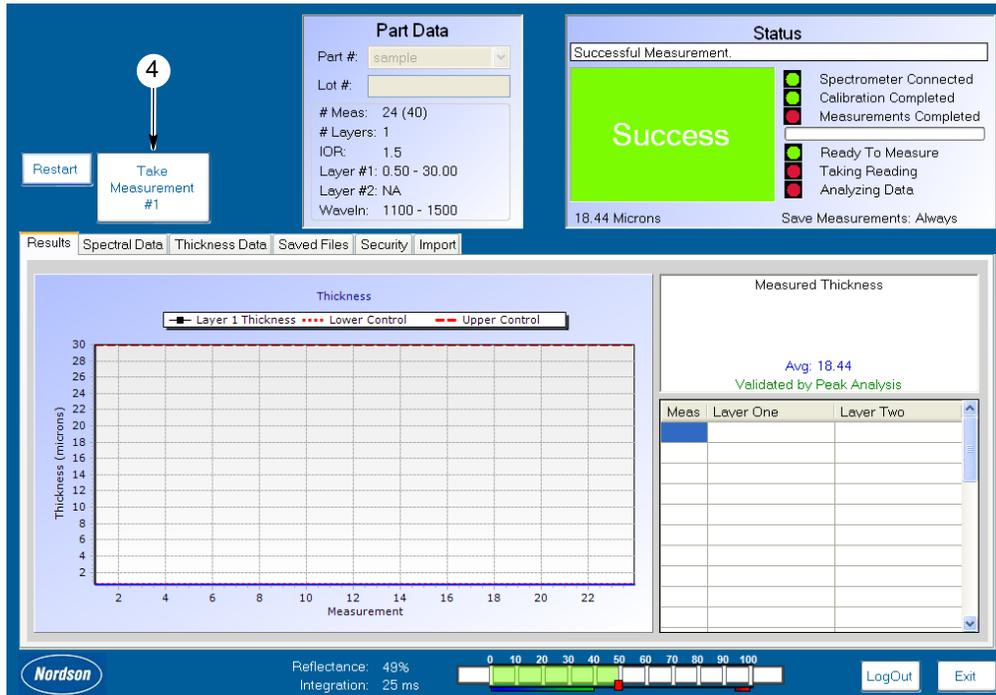

Figure 31 Take Measurement Button Displayed
- See Figure 31. Relocate the probe tip a small amount radially (no less than 0.1 mm or no more than 2 mm) and then click on *Take Measurement # 1* button. The software computes the thickness in seconds and displays the thickness.